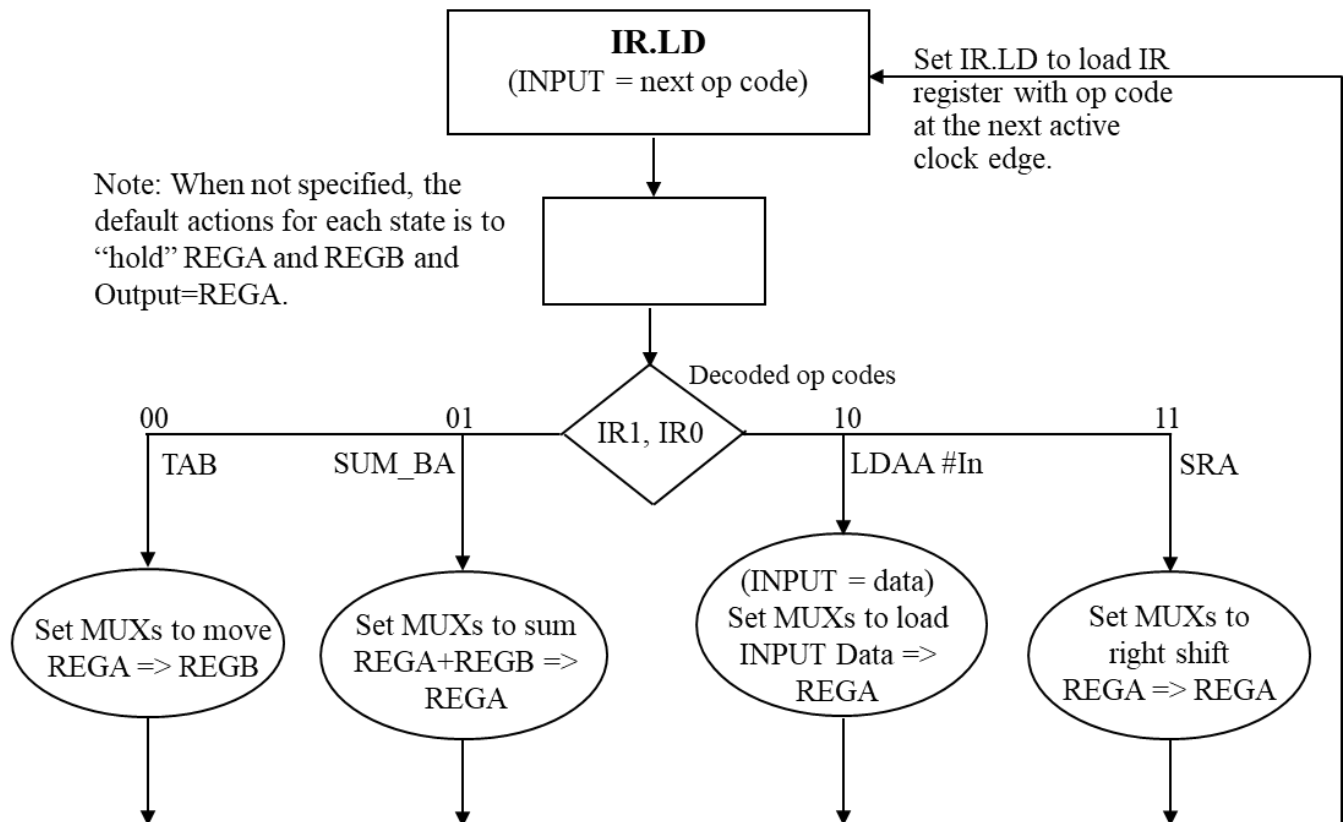

Figure 2. Controller flowchart (**not** an ASM)
The flowchart (**NOT** an ASM) for the controller is shown in Figure 2. All instructions execute in one cycle (plus one cycle to load the IR register). I strongly encourage you to use VHDL for the combinatorial part of the controller.
1. Use the flowchart shown in Figure 2 to help you create an ASM chart. The ASM's outputs include the MUX select signals (instead of the description of actions).